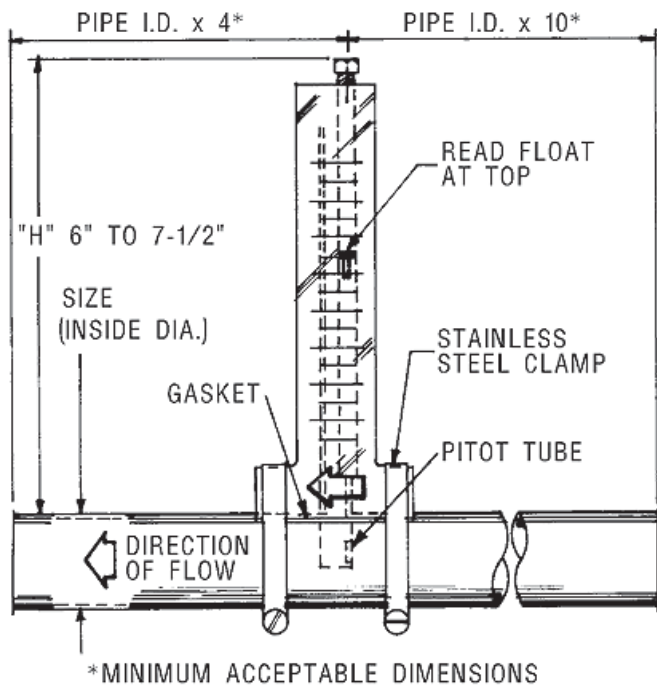
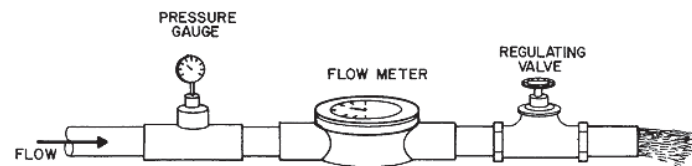

Figure 1. Pitot tube flow rate meter.
Figure 2. Pump capacity measuring apparatus, including a pressure gauge, flow meter, and regulating valve.
- Pitot meters are inserted through a hole drilled into an irrigation pipe. They divert a small stream of water through the meter and float a ball or disk flow indicator. The flow rate is read from a graduated scale at the height of the flow indicator. One type of commercially-available pitot flow rate meter is shown in Figure 1. An impeller flow rate meter measures both the flow rate and the total flow through the meter. The flow rate is read directly from a needle similar to a car speedometer, and the total flow is registered on a meter similar to the odometer (mileage gauge) on a car. An impeller meter is used as a component of the pump capacity measuring apparatus shown in Figure 2.
An apparatus which can be used to measure a pump head-discharge curve is shown in Figure 2. The apparatus consists of a pressure gauge, flow meter, and regulating valve installed on a section of straight pipe. The pipe must be long enough so that the flow meter works properly. Many flow meters require certain minimum lengths of straight pipe upstream and downstream of the meter for accuracy. See the flow meter manufacturer's specifications. Common straight pipe lengths required are 10 pipe diameters upstream and 6 pipe diameters downstream of the meter, although these lengths may be reduced if the flow meter is equipped with straightening vanes. Straightening vanes are installed inside the meter tube and help improve meter performance by reducing extreme turbulence as water is directed through the meter.